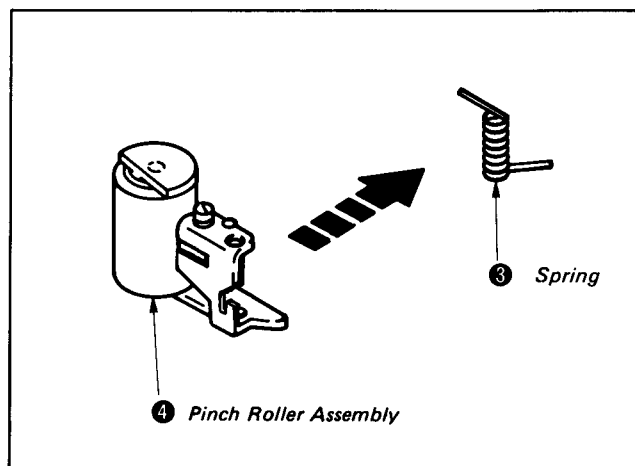

Fig. 8-19.
- 6) Remove the spring ③. (See Fig. 8-19.)